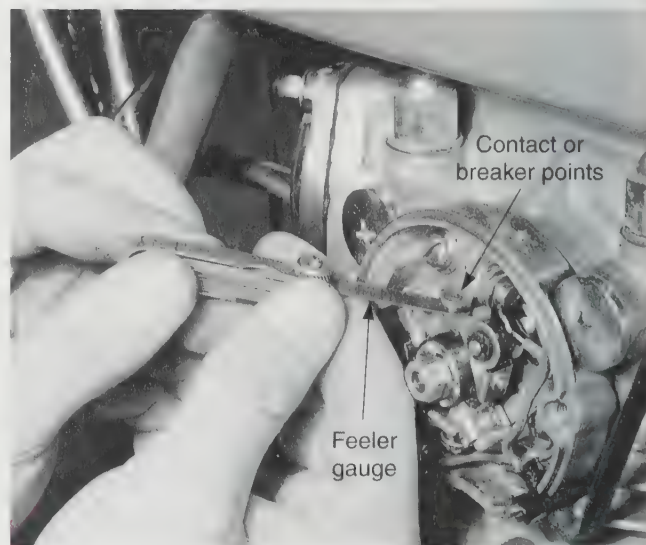

Figure 22-19. A feeler gauge can be used to measure and verify contact point gap with reasonable accuracy.
- Using a feeler gauge (static), **Figure 22-19**.